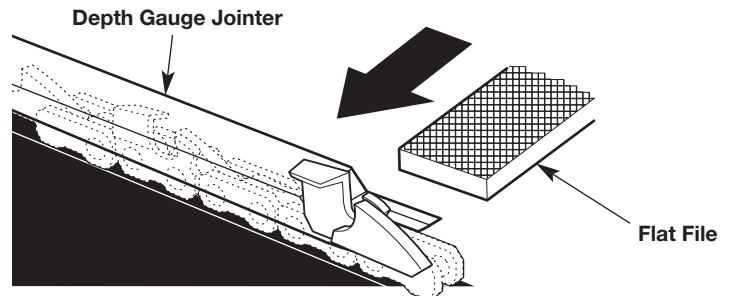

Fig. 36
3. Use a depth gauge tool (not included) to measure the depth gauge clearance (Fig. 36) of each cutter. The depth gauge clearance must be maintained at 1/32 inch (0.6 mm). The depth gauge clearance determines the depth at which the cutter enters the wood during operation and the size of the wood chips produced. Too much clearance increases the chance of kickback. Too little clearance decreases the size of the wood chips, thus decreasing the ability to cut.
- Use a 1/32 inch (0.6 mm) depth gauge jointer and a flat file (tools not included) to lower the depth gauge to the correct clearance (Fig. 36).